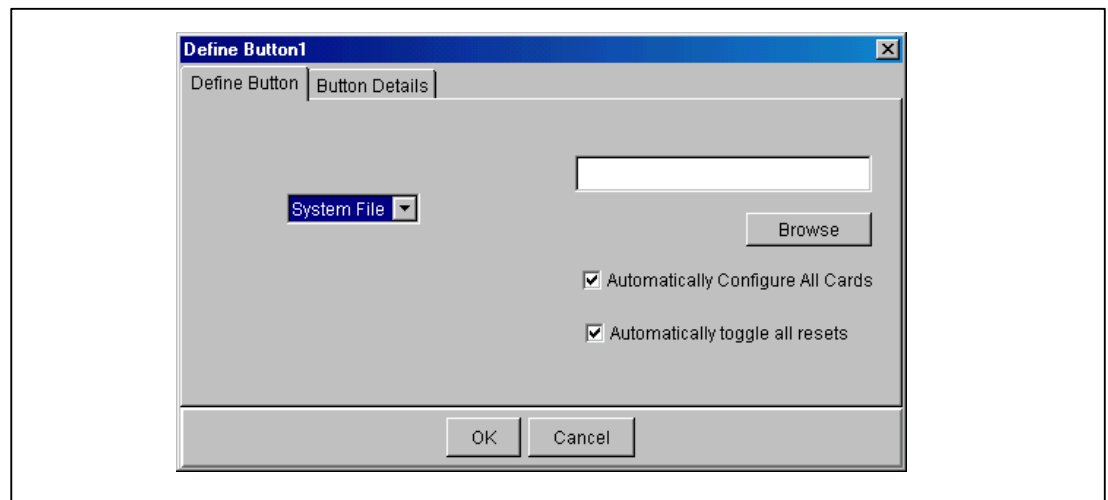

Figure 18: Configure a button for a system file
4. If you want to automatically configure all of the cards and toggle all of the resets then tick the check boxes as shown in Figure 18.